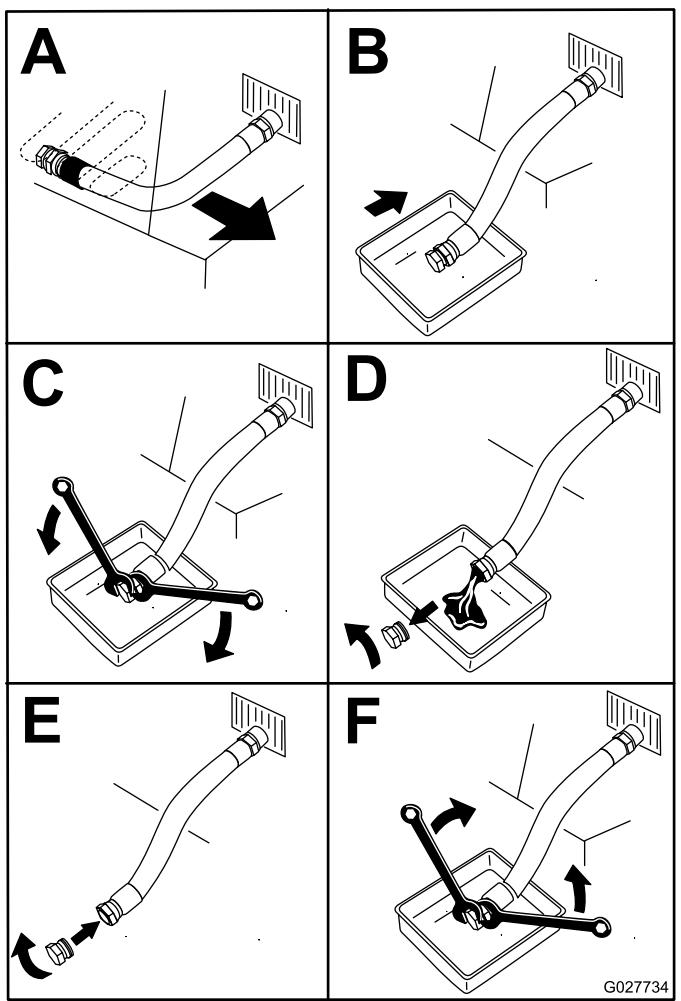

Figure 47
5. Drain the oil from the engine (Figure 47).